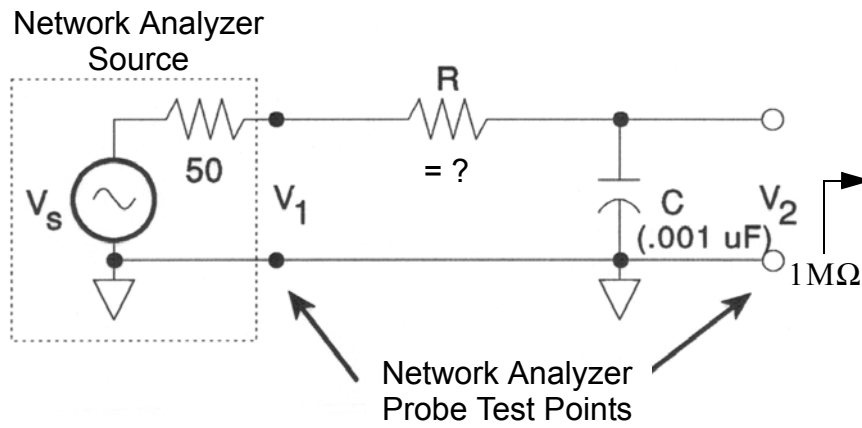

Figure 3: RC Lowpass Filter
You will investigate two linear circuits using the vector network analyzer configured as in Figure 2b. The first is the familiar RC lowpass filter as shown in Figure 3. This circuit has no doubt received considerable attention in past lecture courses as well as electronic circuit laboratories. It is hoped that testing this circuit while you are becoming familiar with the network analyzer, will make the interpretation of the experimental measurements easier. The value for  $R$  is undetermined since you will have fewer choices for  $C$ , you often back into the value for  $R$  by choosing  $C$  first then find  $R$  to obtain the desired 3 dB cutoff frequency.
- (a) Referring to the lowpass filter of Figure 3 using  $C = 1$  nF or another suitable value, determine  $R$  such that the cutoff frequency is near 10 kHz.